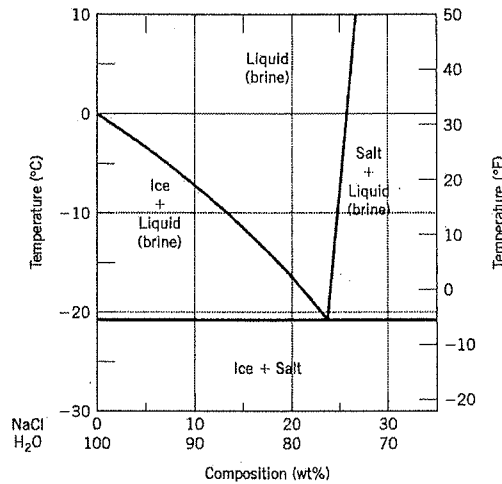

Figure Q2(a)- $H_2O-NaCl$ phase diagram.
- Referring to the phase diagram shown in Figure Q2(a), briefly explain how spreading salt on ice can cause the ice to melt. [2 marks]
- The iron-iron carbide phase diagram is shown in Figure Q2(b).